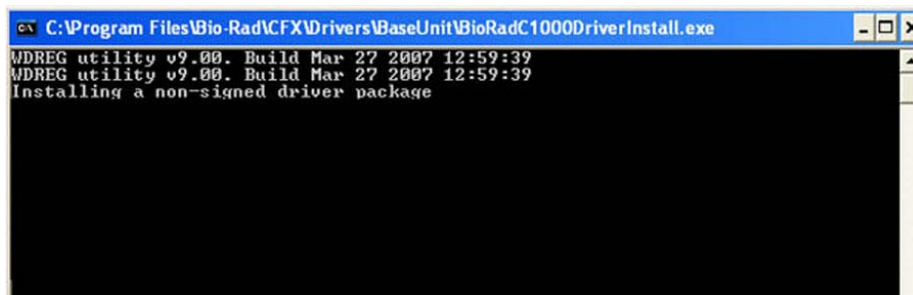

Figure 119. Driver installation window.
2. Click the **Drivers** button software installation screen (Figure 119).